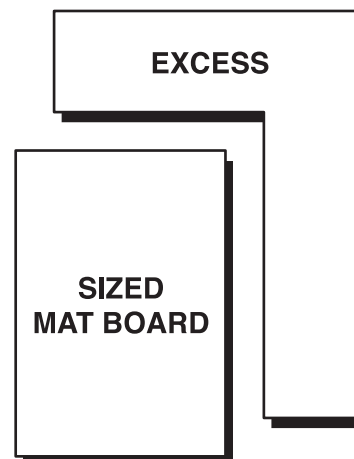

Fig.6
Step 5 – Using your Logan Mat Cutter and the Logan 701 Straight Cutter, cut the mat board on the lines drawn in Step 4. (Fig. 6)